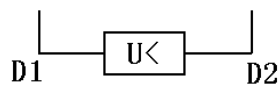

Fig. 5
A. Under-voltage release (see Table 11, Fig. 5)